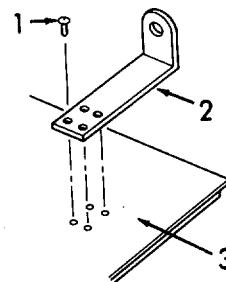

Figure 6-9. Hasp, Replacement.
(4) Replace hasp (Refer to Figure 6-9) as follows:
- (a) Drill out and remove the four rivets (1) that secure the hasp (2) to the door (3).
- (b) Remove the hasp (2).
- (c) Install a new hasp (2) into position.
- (d) Install four new rivets (1) using the rivet tool kit to secure hasp (2) to door (3).